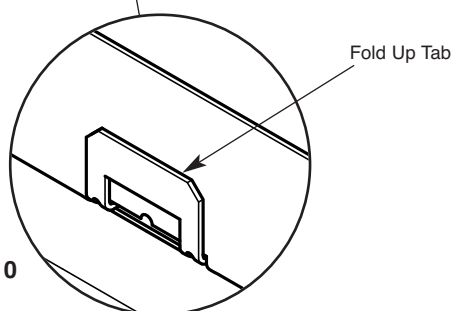

Fig. 10
2. Bend the tab up to secure (Fig. 10).